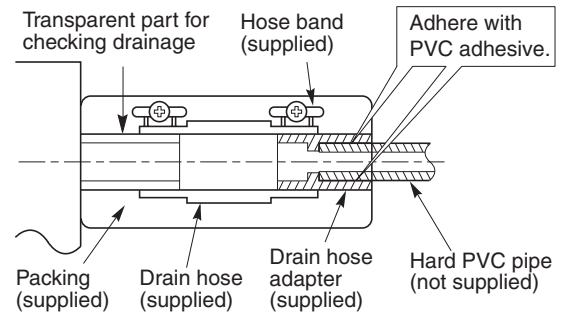

Fig. 1-108
- (1) Prepare standard hard PVC pipe for the drain and use the supplied hose band to prevent water leaks. The PVC pipe must be purchased separately. When doing this, leave a gap between the drain socket of the unit and the PVC pipe to allow the drainage to be checked. The transparent drain pipe allows you to check drainage. (Fig. 1-108)
CAUTION Tighten the hose clamps so their locking nuts face upward. (Fig. 1-108)